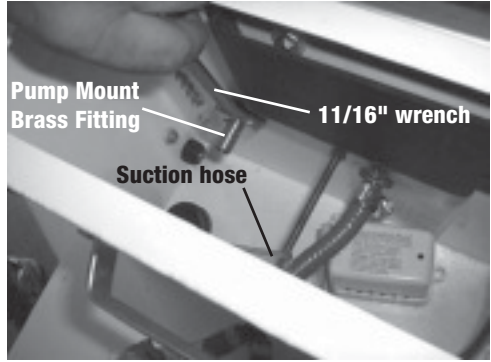

Figure 4: Removing pump
4. Remove pump suction hose and use an 11/16" wrench or socket to remove the pump mount brass fitting (fig. 4).